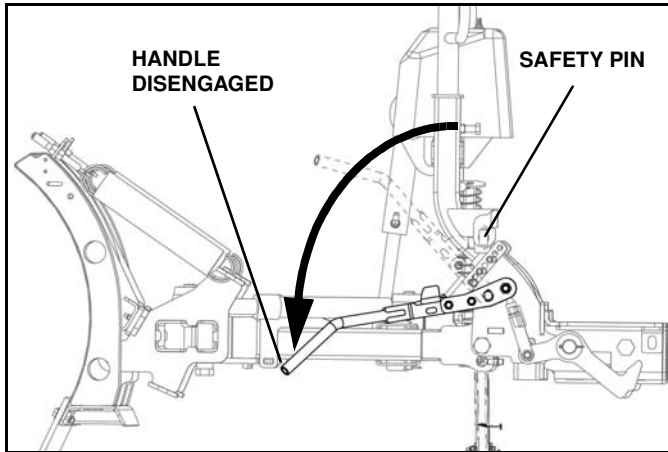

Figure 1-34
7. Pull safety pin out of engagement handle and pull handle away from truck to disengage. (See Figure 1-34).